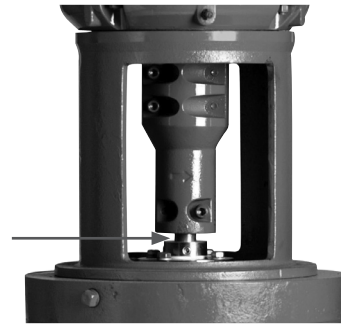

Figure 30a: Run Out Measurement Location
37. Inspect run out of the shaft between the bottom of the coupling and the mechanical seal as shown in Figure 30a. If the run out exceeded 0.005”, the coupling must be adjusted. It is usually most effective to adjust the four bolt section of the coupling.
39. Install the (2) coupling guards.